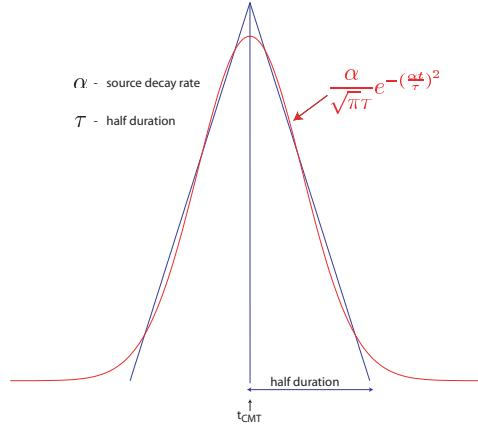

Figure 5.2: Comparison of the shape of a triangle and the Gaussian function actually used.
- For point-source simulations (see finite sources, page 33) we recommend setting the source half-duration parameter `half_duration` equal to zero, which corresponds to simulating a step source-time function, i.e., a moment-rate function that is a delta function. If `half_duration` is not set to zero, the code will use a Gaussian (i.e., a signal with a shape similar to a ‘smoothed triangle’, as explained in ? and shown in Fig 5.2) source-time function with half-width `half_duration`. We prefer to run the solver with `half_duration` set to zero and convolve the resulting synthetic seismograms in post-processing after the run, because this way it is easy to use a variety of source-time functions (see Section 12.1). ? determined that the noise generated in the simulation by using a step source time function may be safely filtered out afterward based upon a convolution with the desired source time function and/or low-pass filtering. Use the serial code `convolve_source_timefunction.f90` and the script `convolve_source_timefunction.csh` for this purpose, or alternatively use signal-processing software packages such as SAC ([www.llnl.gov/sac](http://www.llnl.gov/sac)). Type
Although it is convenient to think of each source as a triangle, in the simulation they are actually Gaussians (as they have better frequency characteristics). The relationship between the triangle and the gaussian used is shown in Fig 5.2. For finite fault simulations it is usually not advisable to use a zero half duration and convolve afterwards, since the half duration is generally fixed by the finite fault model.